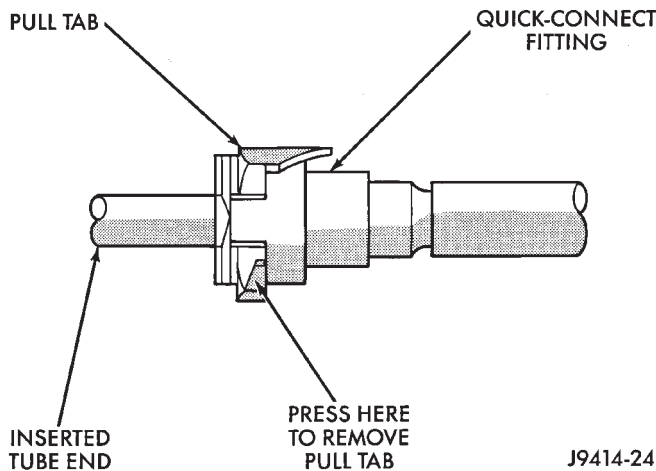

Fig. 16 Single-Tab Type Fitting
- (1) Perform fuel pressure release procedure. Refer to Fuel Pressure Release Procedure in this group.
- (2) Disconnect negative battery cable from battery.
- (3) Clean fitting of any foreign material before disassembly.
- (4) **Single-Tab Type Fitting:** This type of fitting is equipped with a single pull tab (Fig. 16). The tab is removable. After tab is removed, quick-connect fitting can be separated from fuel system component.